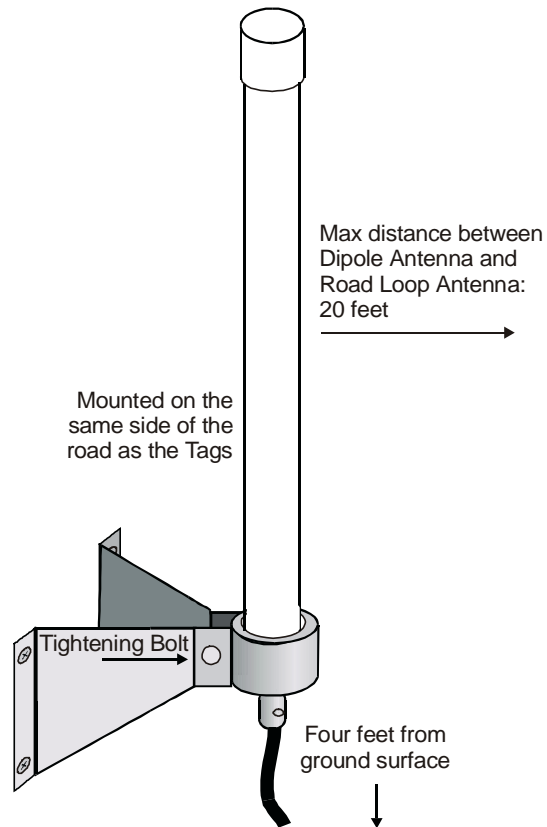

Figure 21 Dipole Antenna mounting
Step 1: Mount the Dipole Antenna vertically with the cable connector at the bottom (Figure 21).